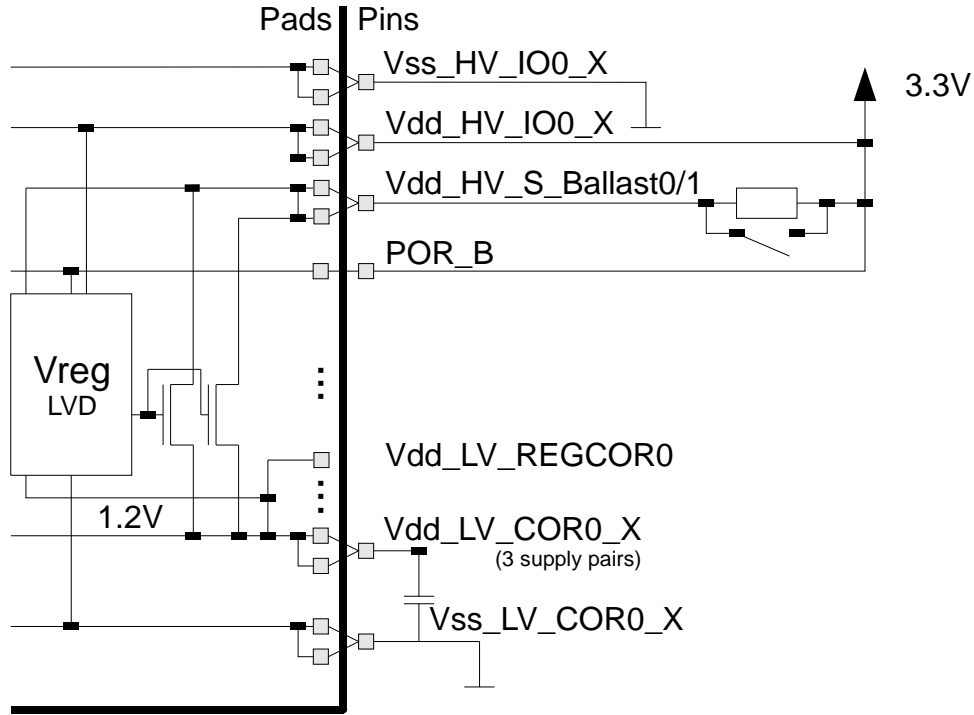

Figure 4. Internal Regulation Mode
- $V_{DD_LV_COR}$ (1.2V) — This is the core logic supply. In the internal regulation mode, the core supply is derived from the main supply via an on-chip linear regulator driving an internal PMOS ballast transistor. The PMOS ballast transistors are located in the pad ring and their source connectors are directly bonded to a dedicated pin. See Figure 4.